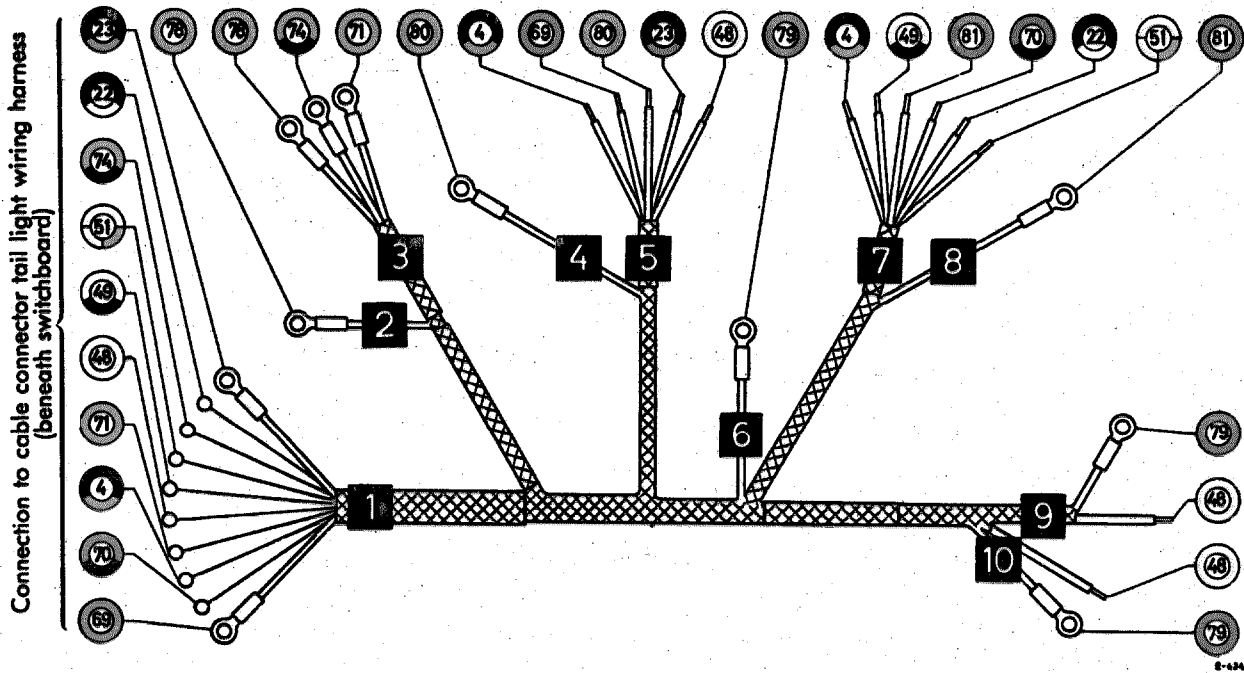

Fig. 54—2/1
75. Push the contact cover (1) of the ignition switch over Leads Nos. 57, 10, 72 and 24 of Cable Sheaf **7** and connect the leads at the ignition switch (2) to terminals 15, 30 and 61 (Fig. 54—1/5).
76. Push the contact cover (1) over the ignition switch (2) and screw it up tight with the round nut (3) (see Fig. 54—1/5).